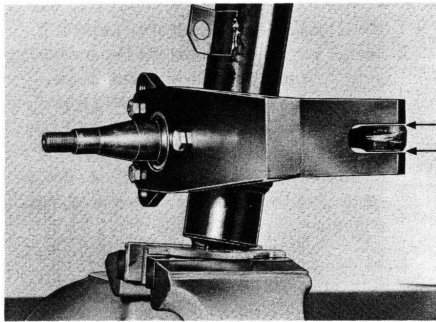

Fig. 10
- a. It must be possible to bolt special tool P 284b to the steering knuckle using three M 8x25 bolts, so that the steering arm lies between the test gage holes. (See Fig. 10.)